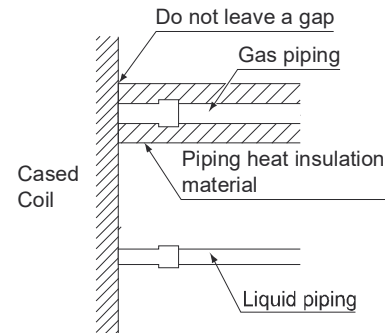

Figure 7
- After checking for gas leaks, be sure to insulate the piping connections as shown in Figure 7.